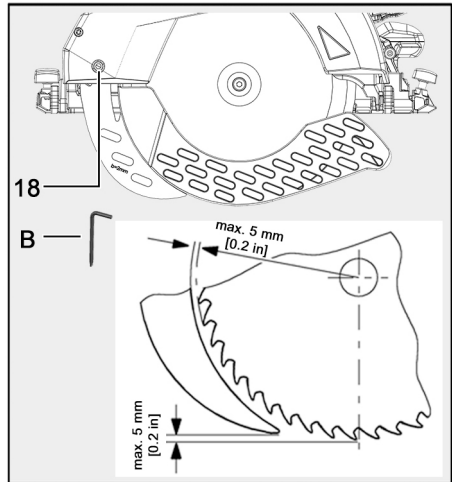

Fig. 10: Distance riving knife to saw blade
2. To make adjustments, loosen the screw (18) by turning it **counterclockwise** using the Allen key (B).
- Do not exceed the maximum distance to the saw blade (see Fig.. 10).
4. Then re-tighten screw (18) by turning it **clockwise** with the Allen key (B).